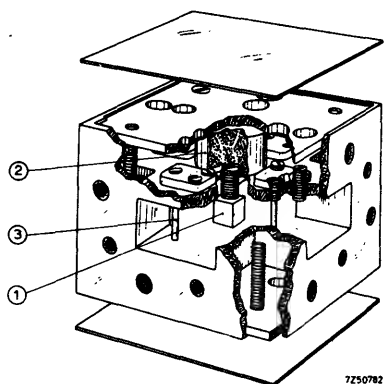

Fig. 8 Construction of a junction type waveguide circulator.
Three or four waveguides intersect at angles of 120° or 90° respectively in this type of circulator. A 4-port waveguide circulator of the junction type is shown in Fig. 8. A piece of ferrite (1) is located between two magnets (2) exactly in the centre of the intersection. Posts (3) are placed in the waveguide to achieve a good match.